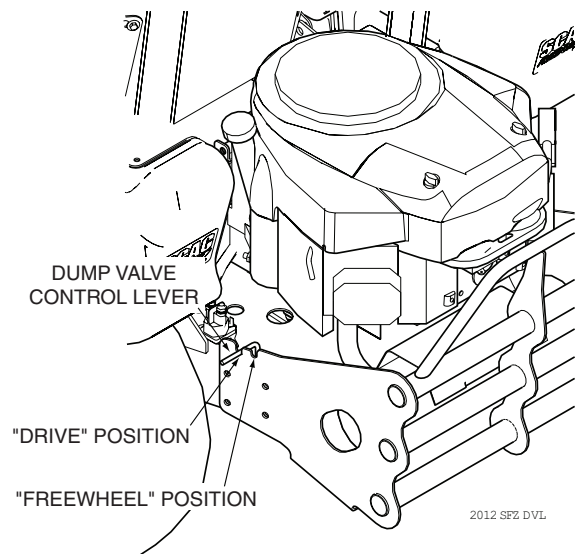

Figure 4-4. Dump Valve Control
12. **Dump Valve Control Levers (Figure 4-4).** Located on the left and right side of the bumper, used to "free-wheel" the mower. Rotating the levers forward into the notch (towards the front of the mower) allows the unit to move under hydraulic power. Rotating the levers backward to the notch (towards the rear of the mower) allows the mower to be moved by hand (free-wheeling).